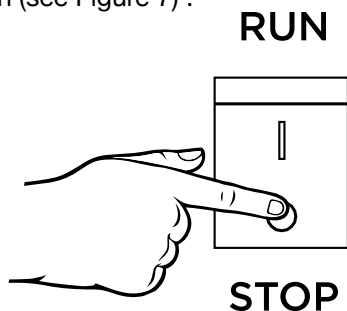

Figure 7: Push engine control switch to STOP position
3. Push the engine control switch to the **STOP** position (see Figure 7) .
If there is an emergency and the inverter must be stopped quickly, move the engine control switch to the **STOP** position immediately (see Figure 7).